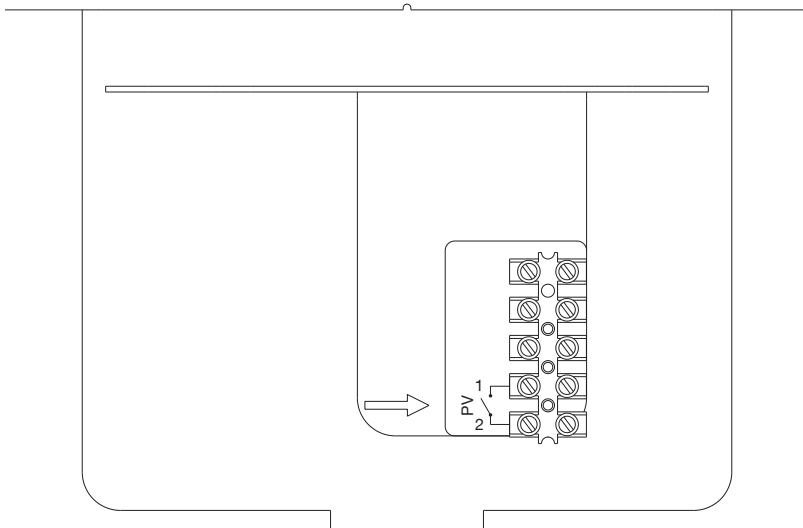

Figure 17: PV connection port
- In case of voltage free contact between clamps 1 and 2 PV is activated (Figure 17).